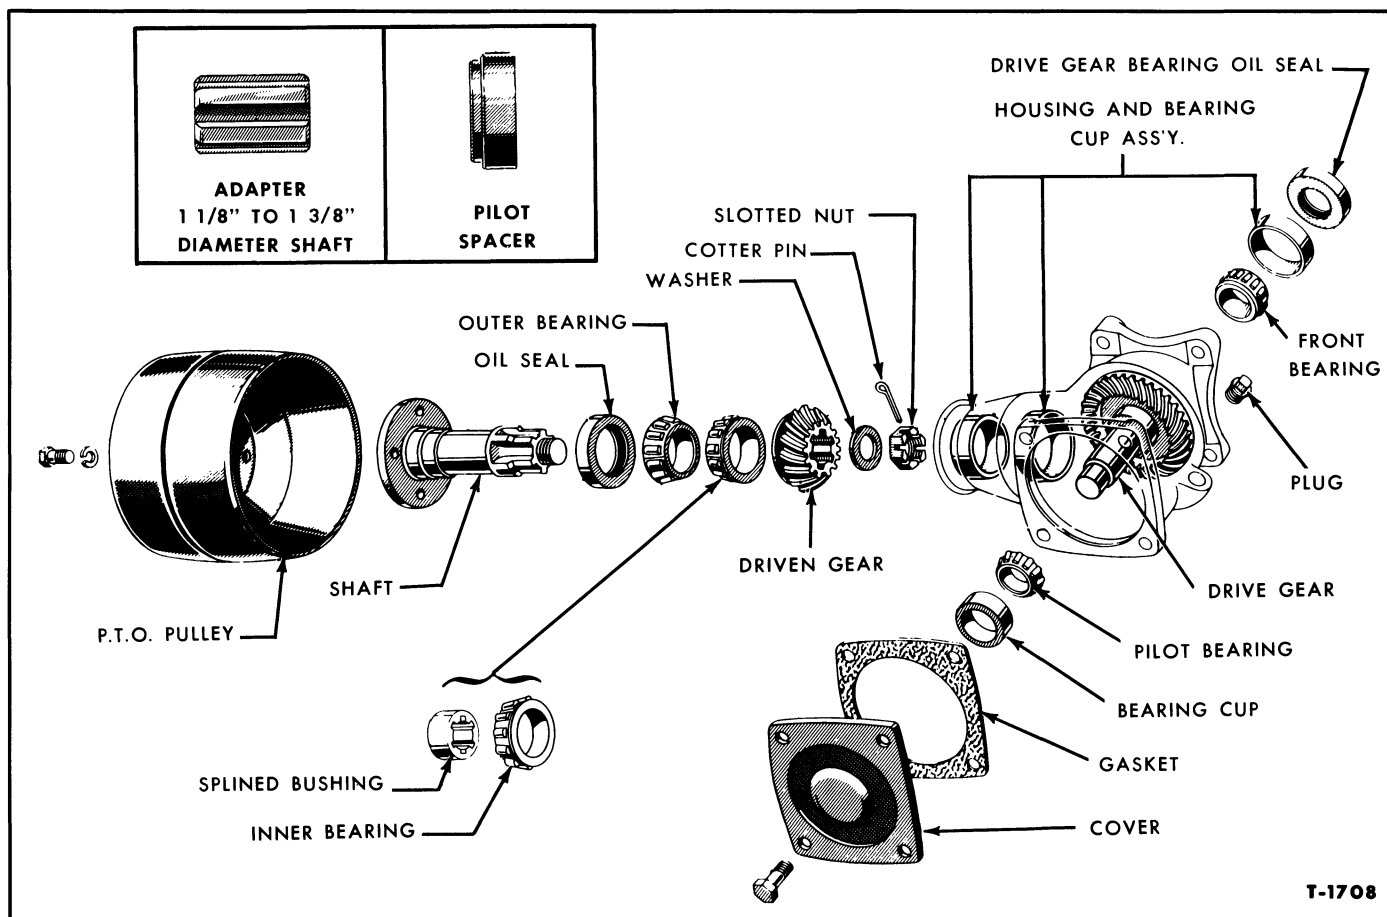

Figure 9—Belt Pulley Assembly
P.T.O. Shaft 1 ⅝" Diameter: The late model P.T.O. belt pulley assembly has a 1 ⅜" female spline. To install this assembly on early model tractors, the 1 ⅝" shaft must be equipped with a 1 ⅝" to 1 ⅜" adapter. See the insert in Figure 9.
P.T.O. Shaft 1 ⅝" Diameter: Remove the P.T.O. cap and install the pilot spacer, Figure 9, in the end of the P.T.O. cover. Seat the spacer with a soft-head hammer. Position the belt pulley assembly on the housing, center it on the pilot spacer, and bolt it to the center housing.
3. Remove the cotter pin, Figure 9, and loosen the
4. Remove the driven gear, bearing, and splined bushing, Figure 9. Pull the pulley shaft assembly out of the housing.
2. Use the tools mentioned in step 1 and pull the drive gear front bearing, Figure 9. Install the new bearing with a 1 ¾" I.D. sleeve and press.